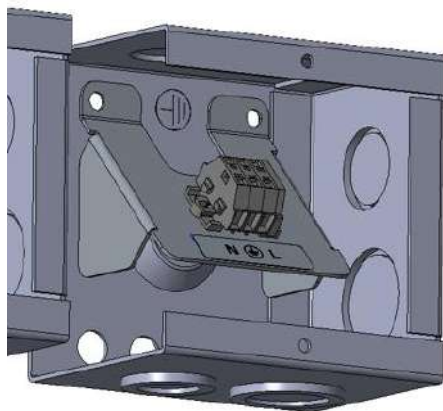

Fig. 48 Power supply terminal board inside the junction box
- D. Insert the external power supply cables into the cable gland and fasten them to the terminal board inside the junction box (Figure 48).